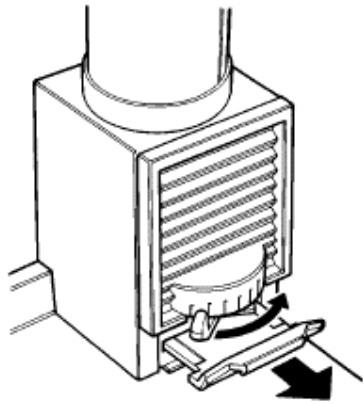

Fig. 7
- f. Open flue chamber damper to maximum (Fig. 7).
- g. Flue dilution lever fully to 'left' (flue chamber door closed, Fig. 7).
Turn the flue dilution lever (See Fig. 7) from left to right hand so that the flue chamber door opens at the bottom and minimise burning rates.